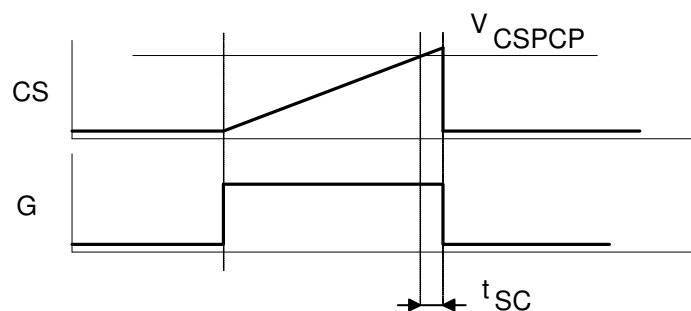

Figure 7 - Peak current limit protection
3. Peak current limit protection (PCLP) is activated, when the voltage at pin CS drops below V_{CSPCP} . Short impulses, $<300\text{ns}$, are suppressed with the leading edge time. The driver turns off very fast (t_{sc}) (figure 7).